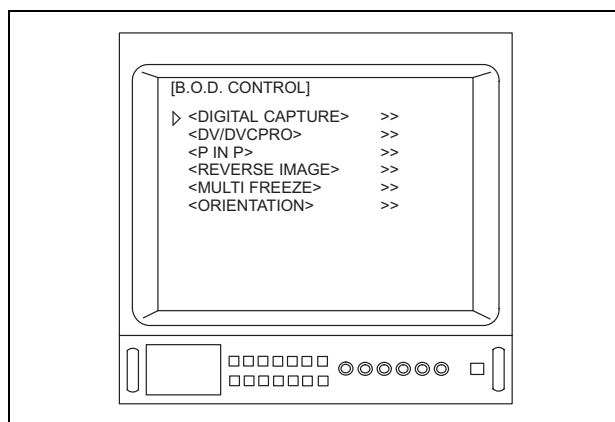

Figure 5.94
4. Depress the menu switches “” or “”, or the “” key on the keyboard to move the arrow “” to “DIGITAL CAPTURE” (see Figure 5.94).
Depending upon which B.O.D.s are installed in the OTV-S7V, the menu shown in Figure 5.94 may appear different from that displayed on the video monitor.